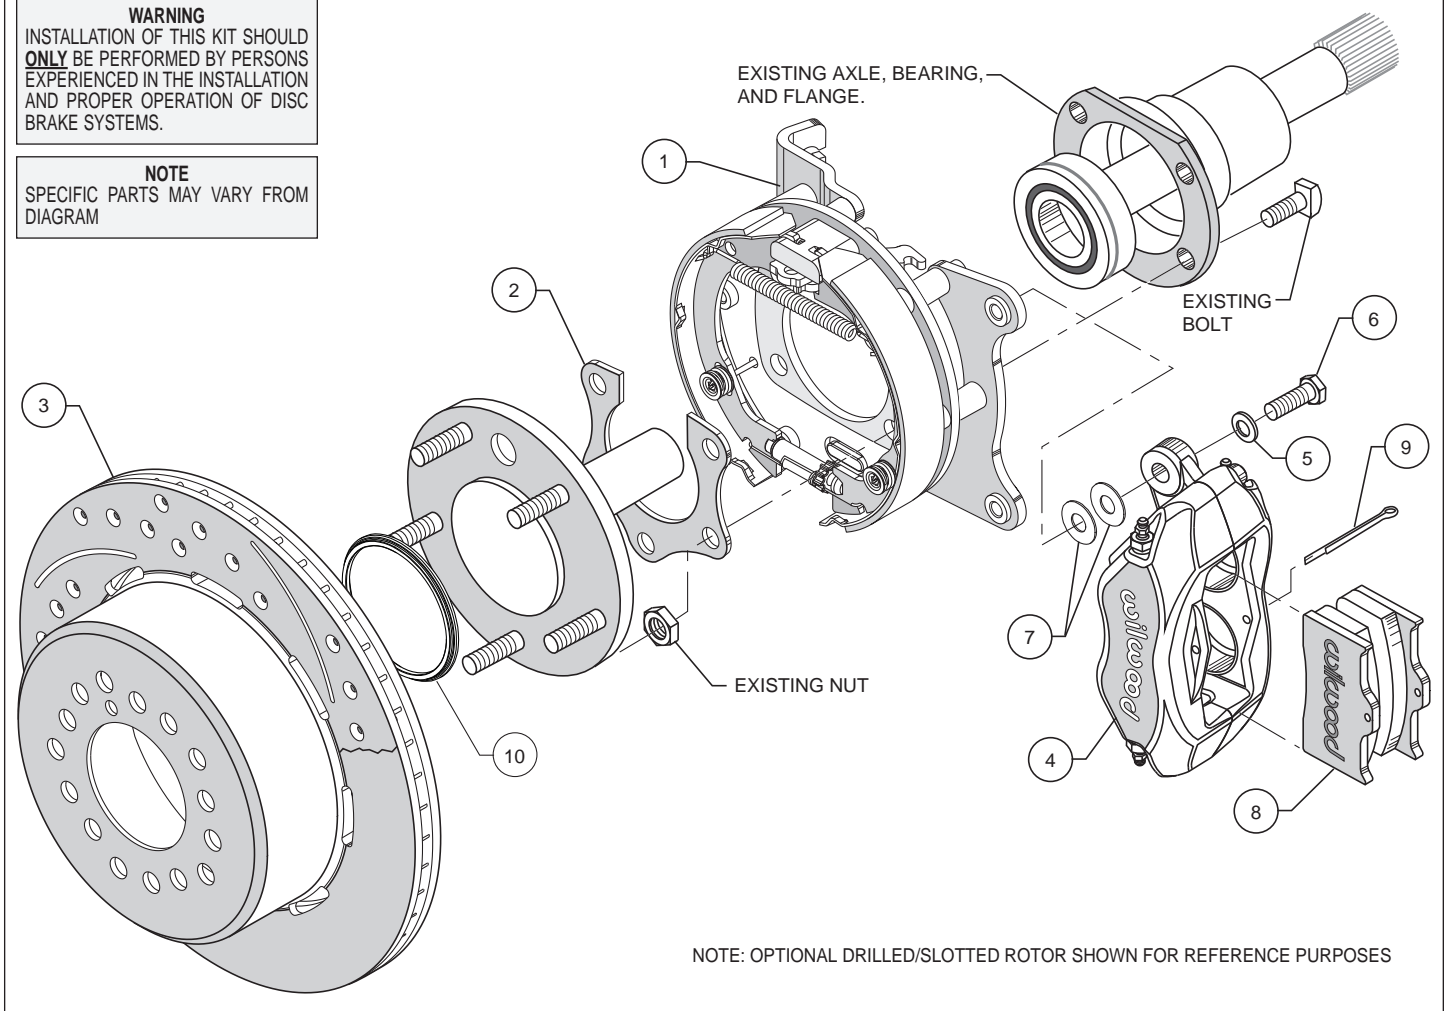
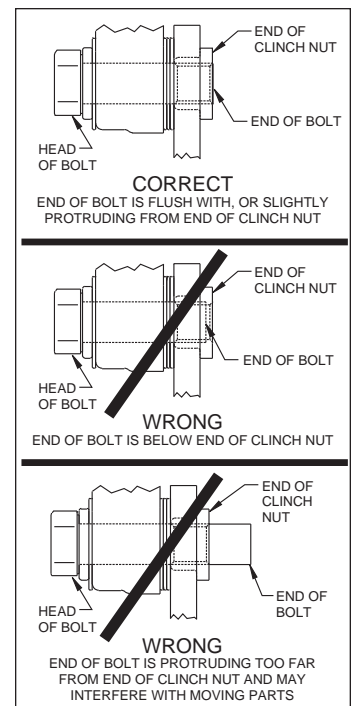

Figure 3. Typical Installation Configuration
Figure 7. Clinch Nut Engagement Diagram
Assembly Instructions (numbers in parenthesis refer to the parts list, and Figure 3 on the preceding pages): **CAUTION:** All mounting bolts must fully engage clinch nuts. Be sure to check that all bolts are either flush or protruding through flanged side of clinch nut after shimming, Figure 7.
• Determine that the appropriate snap ring style Green bearing has been installed on the axle, as shown in Figure 2. Orient the bracket assembly (1) as shown in Figure 3 and Photo 1 and slide it onto the axle. Insert the axle and bracket into the axle housing. Ensure that the bracket assembly backing plate fits flush against the axle housing flange.
• Install the bearing retainer (2) with the opening pointing upward and the relief step facing inward (toward the bearing), as shown in Figures 3 and 6, and Photo 2. Secure retainer and bracket assembly to the axle housing flange using the Original Equipment Manufacturer (OEM) bolts and nuts, Figure 3. Apply red *Loctite*® 271 to the OEM bolt threads and torque to OEM specifications.
• Slide the rotor registration adapter (10) onto the axle register on the axle flange with the smaller O.D. facing toward the rotor/hat (3), Photo 3. Align the correct hole pattern in the rotor/hat with the stud pattern on the axle flange and slide into place, Figure 3 and Photo 4. **NOTE:** The rotor/hat must fit flush against the axle flange or excessive rotor run out may result. Install three lug nuts (finger tight) to keep the rotor/hat assembly in place while continuing with the installation. **NOTE:** Some OEM and after market axles come with stud sizes larger than 0.50" diameter. Verify stud size and have a qualified machine shop drill the bolt circle of the hat/rotor to the correct stud size, if necessary.
• **NOTE:** Please reference the caution statement at the beginning of the assembly instructions. Mount the caliper (4) onto the caliper mounting bracket (1) using bolts (6) and washers (5), as shown in Figure 3. Initially place two .035" thick shims (7) on each bolt between the caliper and the bracket, Photo 5. Temporarily tighten the mounting bolts and view the rotor (3) through the top opening of the caliper. The rotor should be centered in the caliper, Photo 6. If not, adjust by adding or subtracting shims between the bracket and the caliper. Always use the same amount of shims on each of the two mounting bolts. **NOTE:** The end of each bolt must be flush with or slightly protruding from the head of the clinch nut, as shown in Figure 7. If necessary place spare shims between washer (5) and caliper mounting ear to achieve the proper clinch nut engagement. Once the caliper alignment and clinch nut engagement are correct, remove the bolts one at a time, apply red *Loctite*® 271 to bolt threads, and torque to 40 ft-lb.